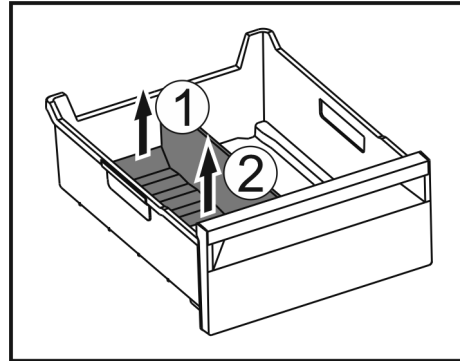

Fig. 115
- Lift the rear part of the ice compartment divider. Fig. 115 (1)
- Remove the ice compartment divider upwards. Fig. 115 (2)